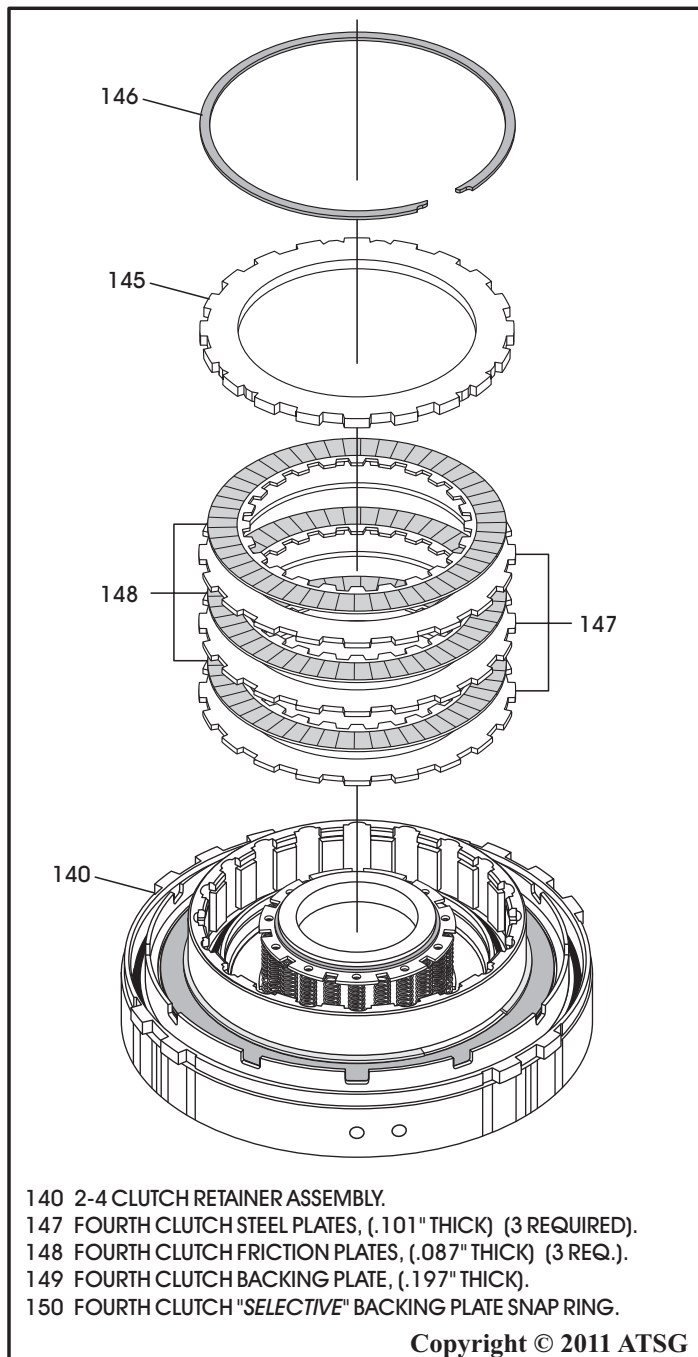

Figure 83
14. Install the 4th clutch plates beginning with a steel plate and alternating with friction plates until you have installed three of each, as shown in Figure 83.
15. Install the 4th clutch backing plate, as shown in Figure 83.
16. Install the 4th clutch backing plate *selective* snap ring, as shown in Figure 83, and ensure that it is fully seated.